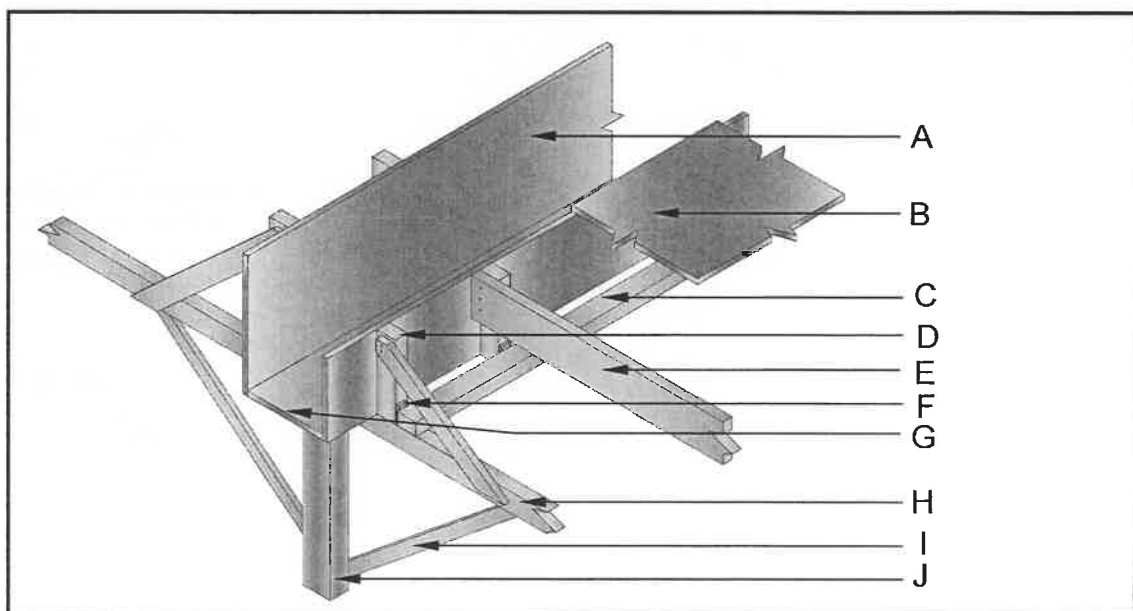

FIGURE 4.8
- 4.8 Study FIGURE 4.8 below. Match the word(s) in the list below with the labels in FIGURE 4.8. Write only the correct word(s) next to the label (A–J) in the ANSWER BOOK, e.g. K baseplate. Words in the list may only be used ONCE.